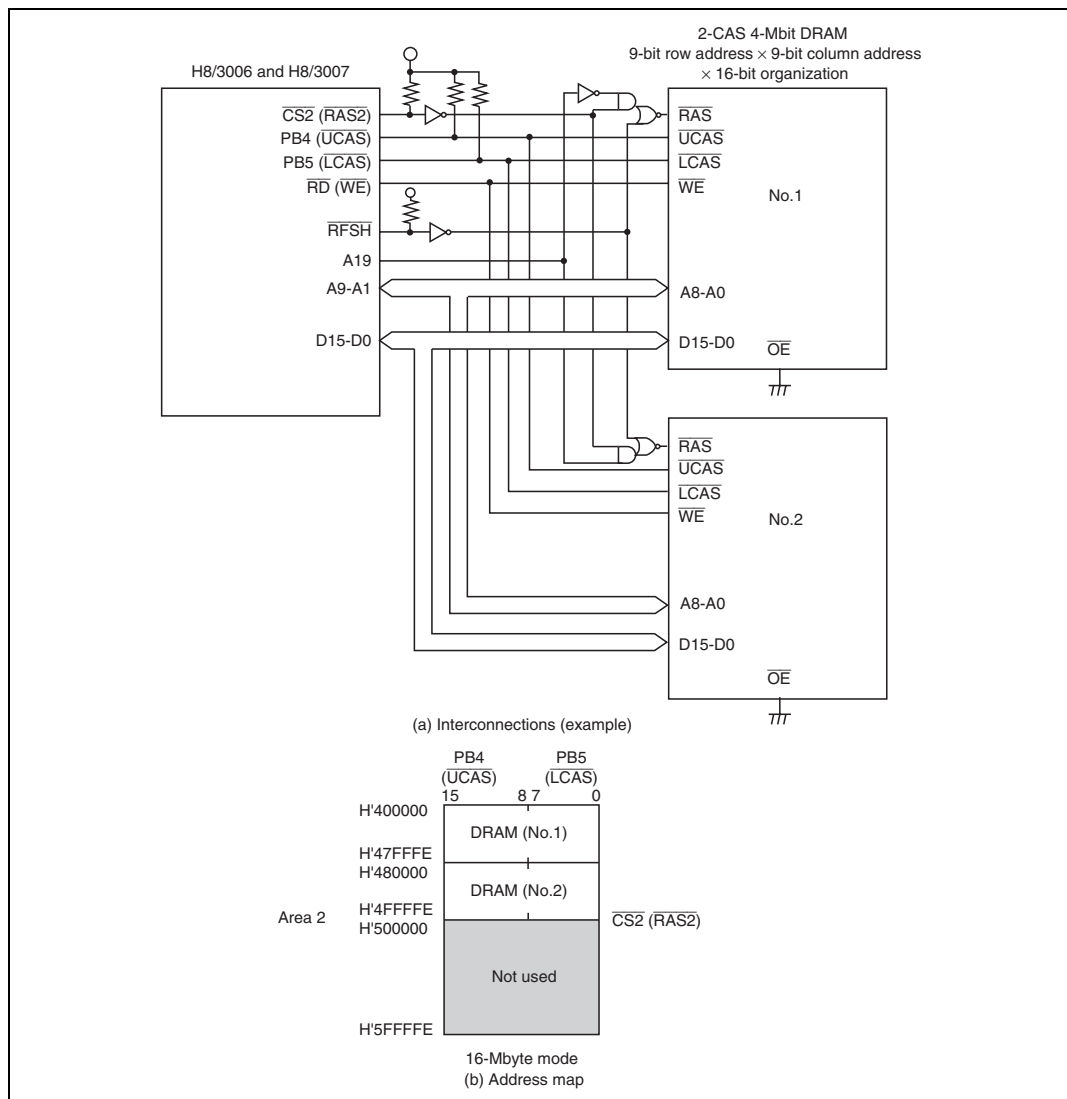

Figure 6.31 Interconnections and Address Map for 2-CAS 4-Mbit DRAMs with $\times$ 16-Bit Organization
- Figure 6.31 shows typical interconnections when using two 4-Mbit DRAMs, and the corresponding address map. The DRAMs used in this example are of the 9-bit row address $\times$ 9-bit column address type. In this example, upper address decoding allows multiple DRAMs to be connected to a single area. The RFSH pin is used in this case, since both DRAMs must be refreshed simultaneously. However, note that RAS down mode cannot be used in this interconnection example.